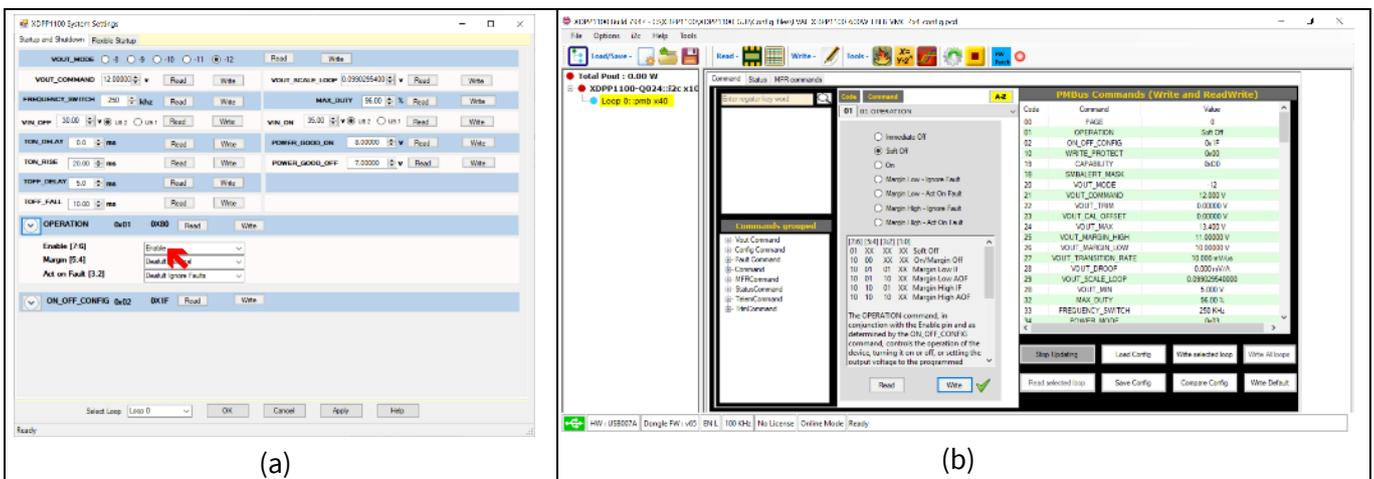

Figure 23 Soft stop feature
- **TOFF_FALL** sets the time, in ms, from the end of the turn-off delay time until the voltage is commanded to zero (Figure 23).
For shutting down the converter over the course of **TOFF_DELAY**, Write the **Soft Off** command in the **OPERATION** PMBus command (Figure 23).